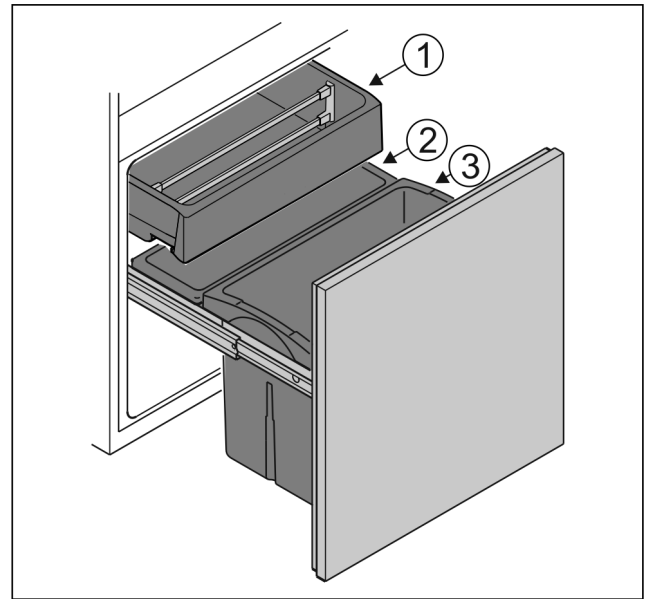

Fig. 6
- ▶ Container Fig. 6 (1): Store unpackaged vegetables and tropical fruits.
- ▶ Container Fig. 6 (2): Store small unpackaged fruits and vegetables.
- ▶ Container Fig. 6 (3): Store individual bottles.